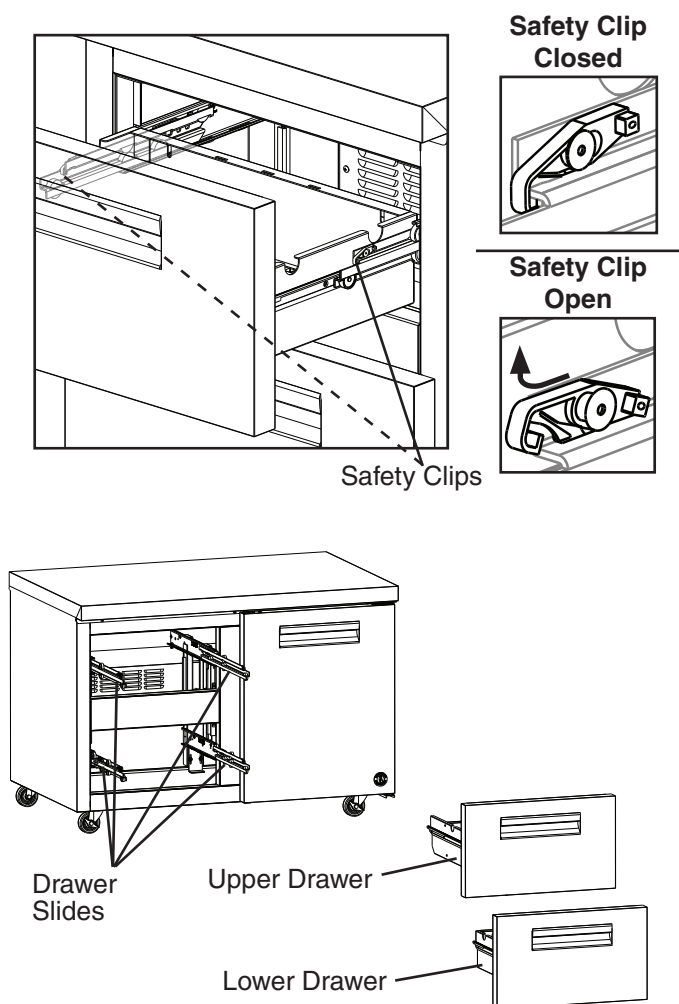

Fig. 24
- 2) Remove the drawers. Pull the drawer out to its fully extended position. Open the safety clips (one on each side) by sliding them forward, then rotating them up. See Fig. 24. Lift up on the handle slightly, then pull to disengage the drawer. Be sure to support the rear and front of the drawer while removing it. **WARNING! Be sure to close the safety clips when reinstalling the drawer.**